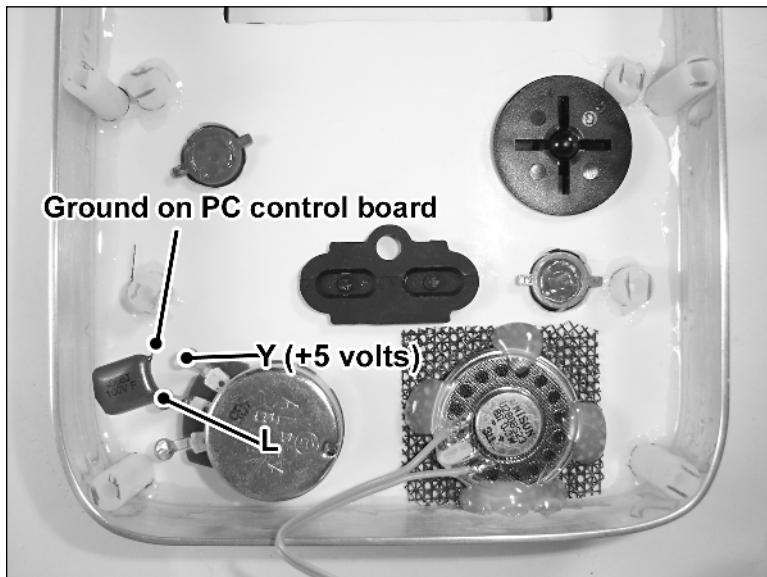

FIGURE 16-10: The case with the paddle, green capacitor, buttons, and speaker installed.
3. Place all the NES buttons in the front of the case as shown in Figure 16-10.